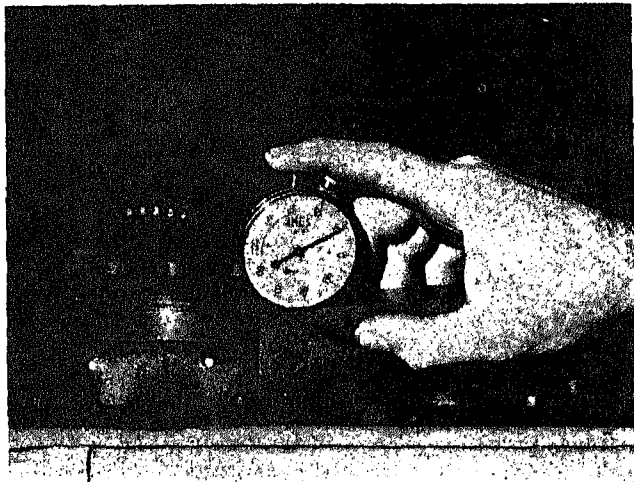

Fig. 14-1-8. Checking cylinder liner counterbore
1. Check liner counterbore depth in cylinder block at four equidistant points, using Gauge Block, Fig. 14-1-8; "zero" indicator before taking measurements.